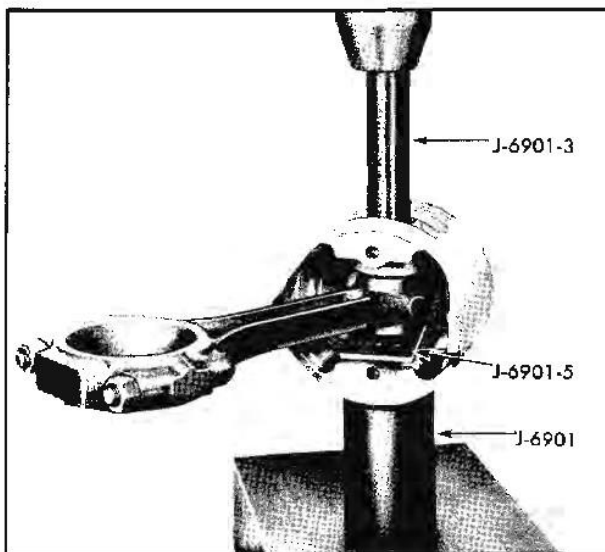

Fig. 6-140 Piston Positioned in Arbor Press for Removal of Pin
2. Using a suitable arbor press place the spring and plunger into the bore of the base support in position on an arbor press with the pilot plunger indexed in the bottom of piston pin bore. See Fig 6-140 insert for correct base support and pilot plunger for the type pistons being serviced.
3. Place tool J-6901-5 between connecting rod and piston boss (Fig. 6-140).
4. Place tool J-6901-3 (Fig. 6-140) in piston pin and press piston pin down until pilot bottoms in tool J-6901.
8. Using tool J-6901-3 (Fig. 6-140) press pin out of piston and connecting rod.